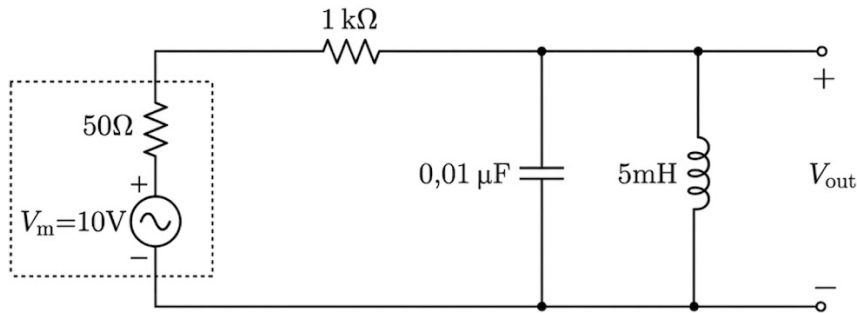

Figure 1
P1 For the filter given in Figure 1,
1. Construct the parallel RLC circuit shown in Figure 1.